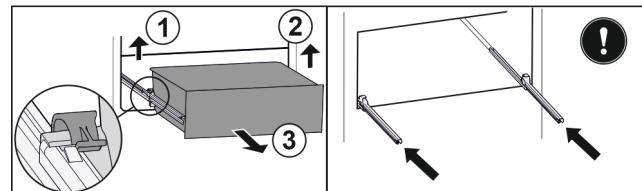

Fig. 139
- ▶ Lift left clamp and simultaneously pull drawer forwards on the left. Fig. 139 (1)
- ▶ Lift right clamp and simultaneously pull drawer forwards on the right. Fig. 139 (2)
- ▶ Remove drawer to the front. Fig. 139 (3)